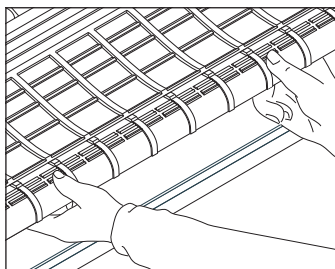

Fig. 4
- 6 The support tray should be laid so that the curved front edge dresses down over the fascia vent unit towards the gutter (each tray provides 600mm effective cover) (Fig. 4).